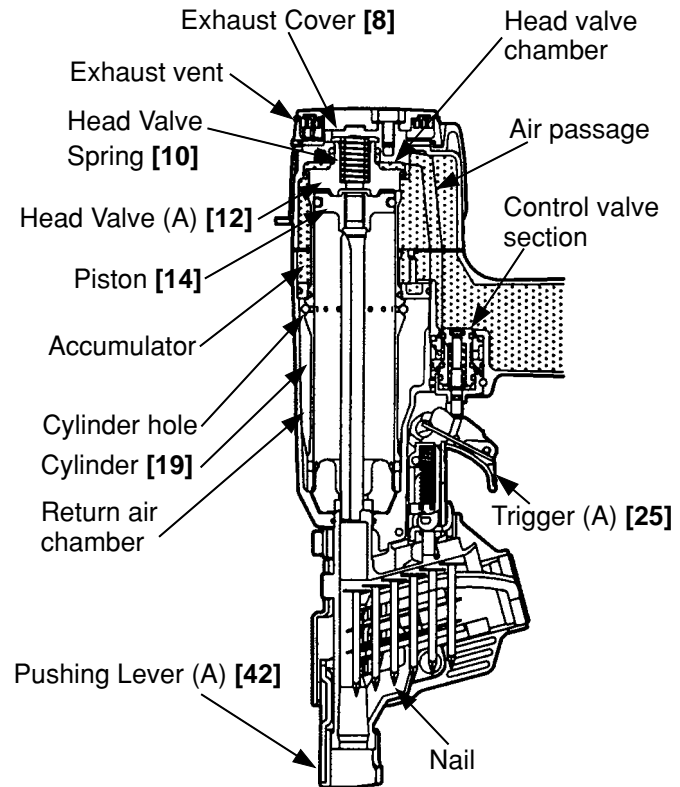
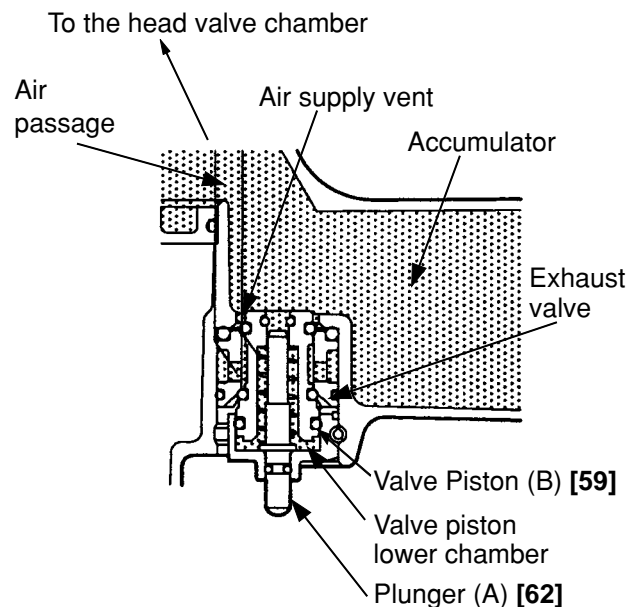

Fig. 5
Fig. 6 Control valve section
(1) Before nailing: (Fig. 5 and Fig. 6)
(2) When nailing: (Fig. 5 and Fig. 6)